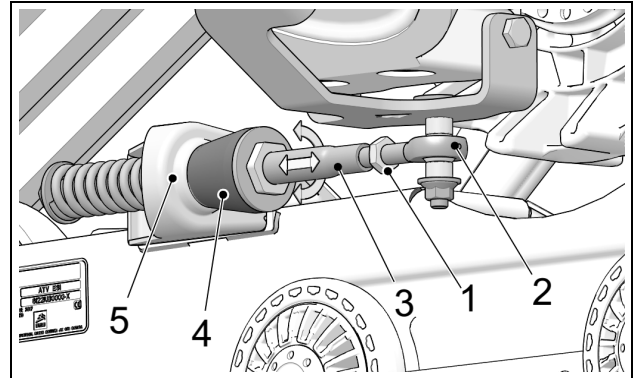

Figure 14
- Loosen jam nut (1). Turn stabilizing arm (3) to adjust length of rod end (2) so that rubber cone (4) applies light pressure on anti-rotation retainer (5). Figure 14.